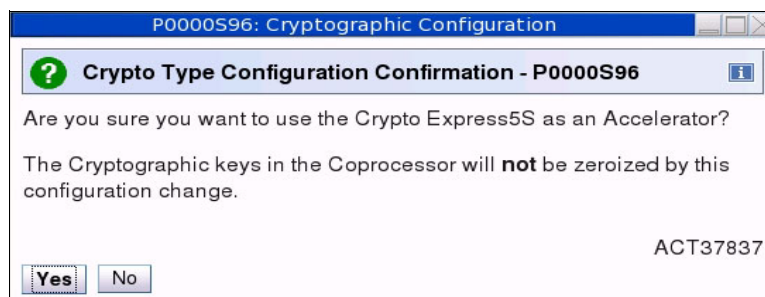

Figure 10-13 Crypto Type Configuration Confirmation for accelerator
5. Click **Yes** (Figure 10-13).